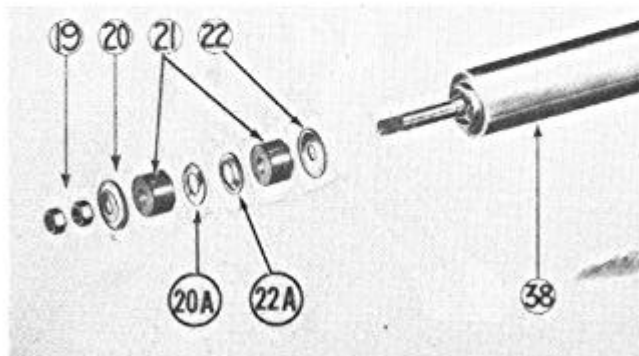

FIGURE 21
2. Attach piston rod to the bracket at No. 3 crossmember, assemble one piston shaft washer, one rubber bushing and one rubber bushing retainer on each side of the bracket, Figure 21. Cupped portions of washers should be toward rubber bushings.